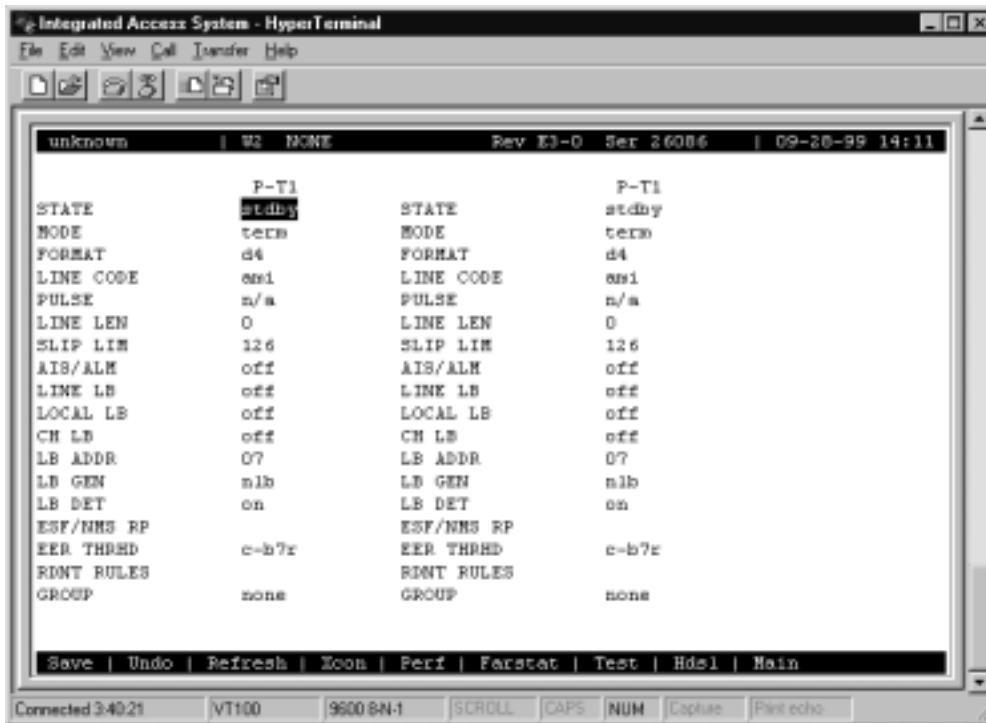

Figure 7-15. WAN HDSL Card Main Screen for PairGain T1/HDSL Modules
Figure 7-15 shows the WAN HDSL Card Main Screen for PairGain T1/HDSL operation. This example shows a WAN HDSL card with two PairGain T1/HDSL (821) modules. The P-T1/P-T1 Modules for T1 operation have identical configuration parameters, which you must set on the WAN Card Main Screen. To go to that screen select the desired WAN card on the System Main Screen, then press <Enter>.